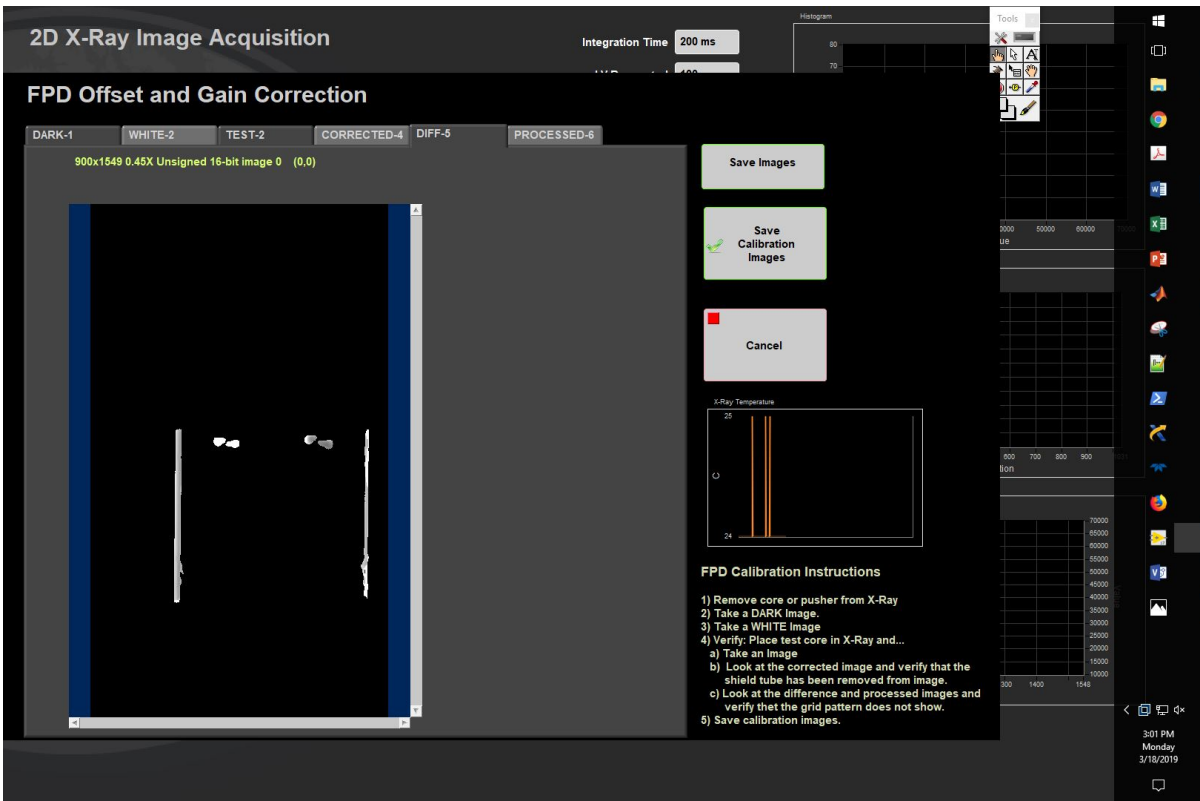

Figure 28- Difference Image Tab
5. Select the DIFF-5 tab to view the DIFFERENCE image (**Figure 28**)